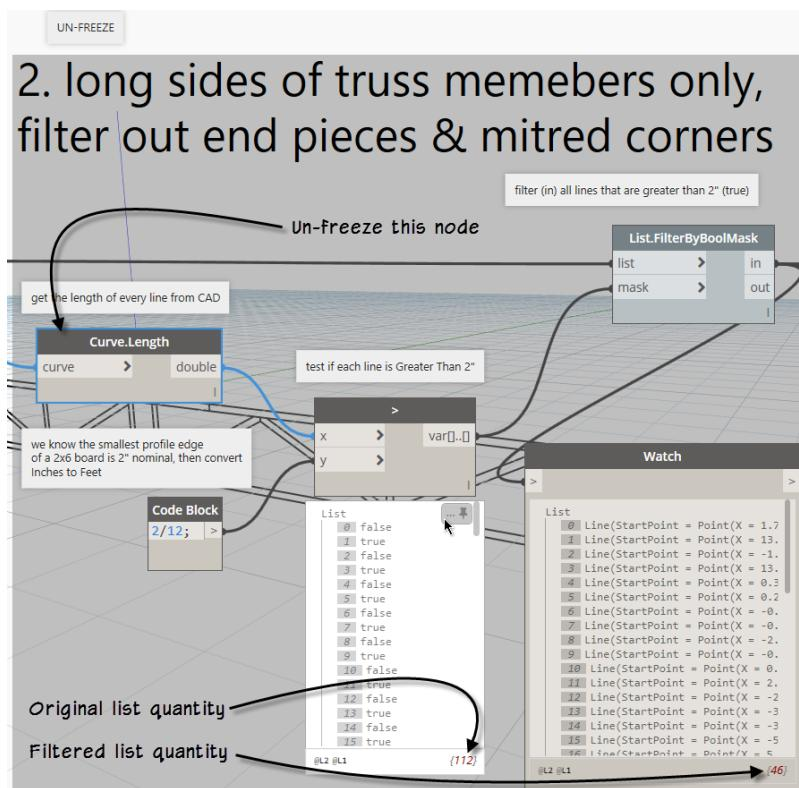

Figure 81
**9. Run the graph. Study the results in the preview bubble and **Watch** nodes (see Figure 81).**